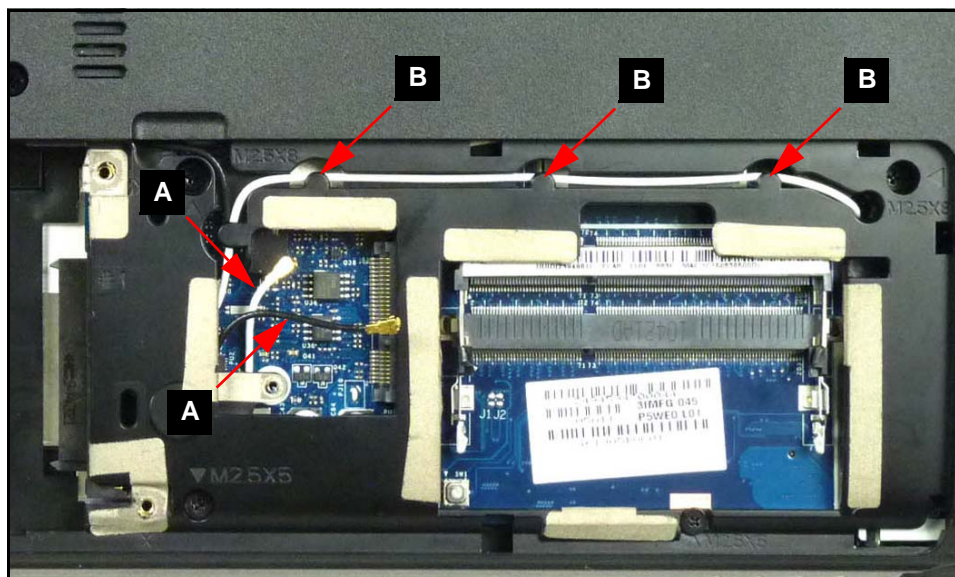

Figure 3-53. WLAN Module Cables
2. Remove WLAN antenna cables (A) from WLAN module connectors (Figure 3-53).
8. Install WLAN antenna cables (A) to guides (B) on lower cover. Refer to Figure 3-53.